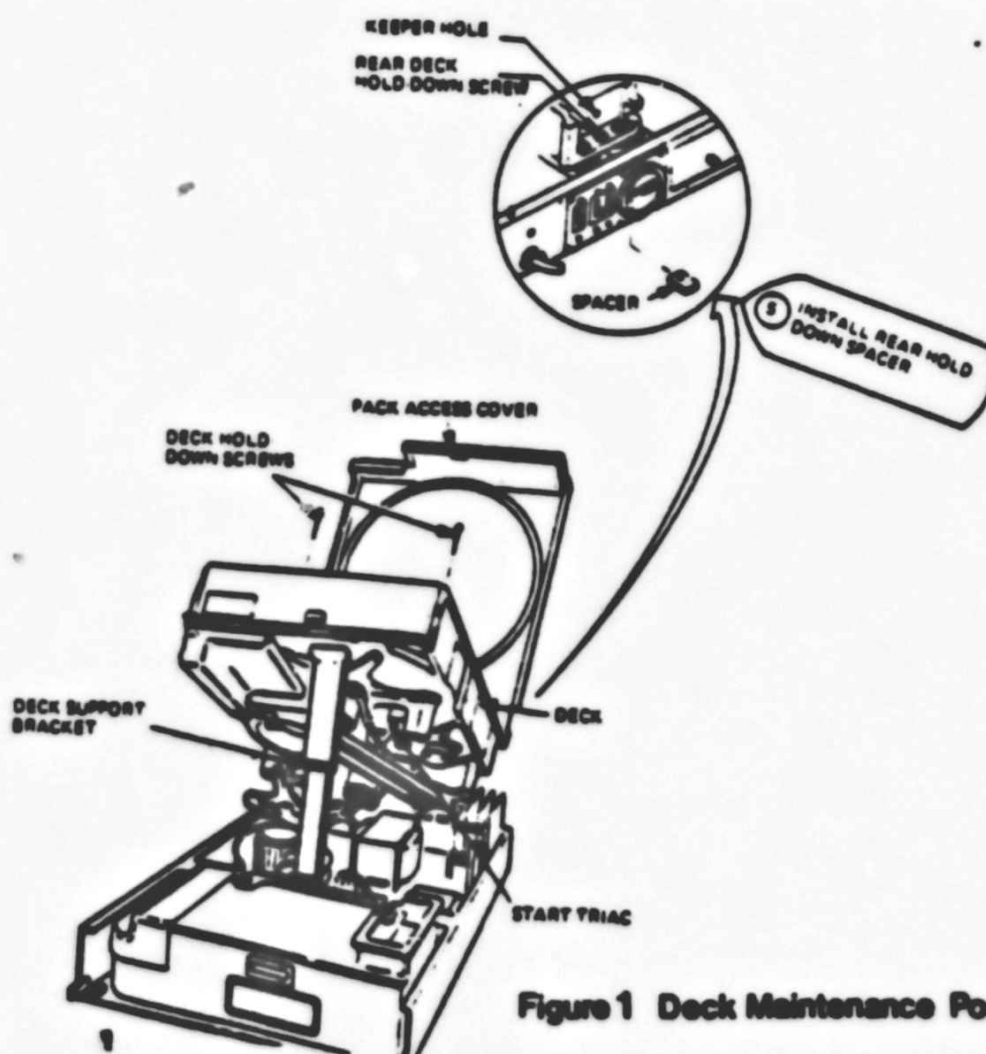

Figure 1 Deck Maintenance Position
5. Install the rear deck hold-down spacer. (See Figure 1)